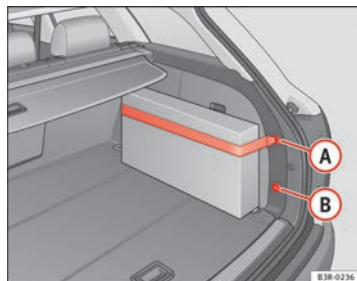

Fig. 117 Retaining strap attached to right-hand side lining
- Hook the retaining strap into housing (A) or (B) ⇒ Fig. 117.